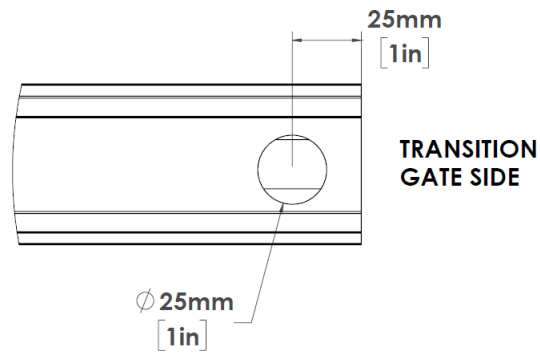

Figure 91: **Fixed Gate Hole Position**
- a. Drill a 1" diameter hole 1" from the gate side of the fixed gate track, centered across the width of the track (Figure 91).